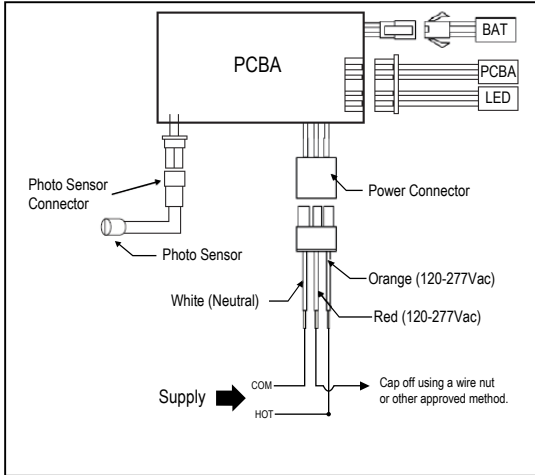

Figure 4: (Factory wired/ships standard)
- a. Photo Sensor (factory wired/ships standard) – Cap off the red wire. The photo sensor will be connected directly to the board (see Figure 4). Unit will illuminate from dusk to dawn and in emergency mode.